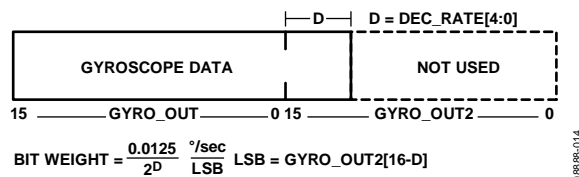
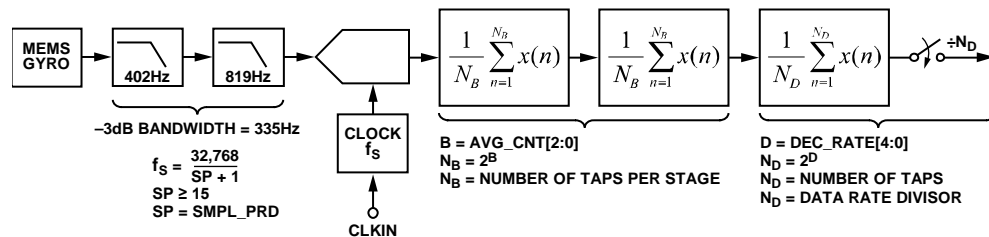

Figure 14. Gyroscope Output Format, DEC\_RATE[4:0] > 0
Figure 18. Sampling and Frequency Response Block Diagram
The GYRO\_OUT2 register (see Table 11) captures the bit growth associated with the decimation filter shown in Figure 18, using a MSB-justified format. The bit growth starts with the MSB (GYRO\_OUT2[15]), is equal to the decimation rate setting in DEC\_RATE[4:0] (see Table 18), and grows in the LSB direction as the decimation rate increases. See Figure 14 for more details.
Figure 18 provides a block diagram for the sampling and digital filter stages inside the ADIS16135. Table 15 provides a summary of registers for sample rate and filter control.
[15:0]	Clock setting bits; sets $f_s$ in Figure 18
The AVG\_CNT register (see Table 17) provides user controls for the low-pass filter. This filter contains two cascaded averaging filters that provide a Bartlett window FIR filter response (see Figure 18). For example, set AVG\_CNT[7:0] = 0x04 (DIN = 0xA004) to set each stage to 16 taps. When used with the default sample rate of 1024 SPS, this establishes a –3dB bandwidth of approximately 20 Hz for this filter.
[2:0]	Binary; B variable in Figure 18; maximum = 110 (6)
The DEC\_RATE register (see Table 18) provides user control for the final filter stage (see Figure 18), which averages and decimates the output data. For systems that value lower sample rates, this filter stage provides an opportunity to lower the sample rate while maintaining optimal bias stability performance. The –3 dB bandwidth of this filter stage is approximately one half the output data rate. For example, set DEC\_RATE[7:0] = 0x04 (DIN = 0xA204) to reduce the sample rate by a factor of 16. When the factory default 1024 SPS sample rate is used, this decimation setting reduces the output data rate to 64 SPS and the sensor bandwidth to approximately 31 Hz.
[4:0]	Binary; D variable in Figure 18; maximum setting = 1000 (binary) = 16 (decimal)